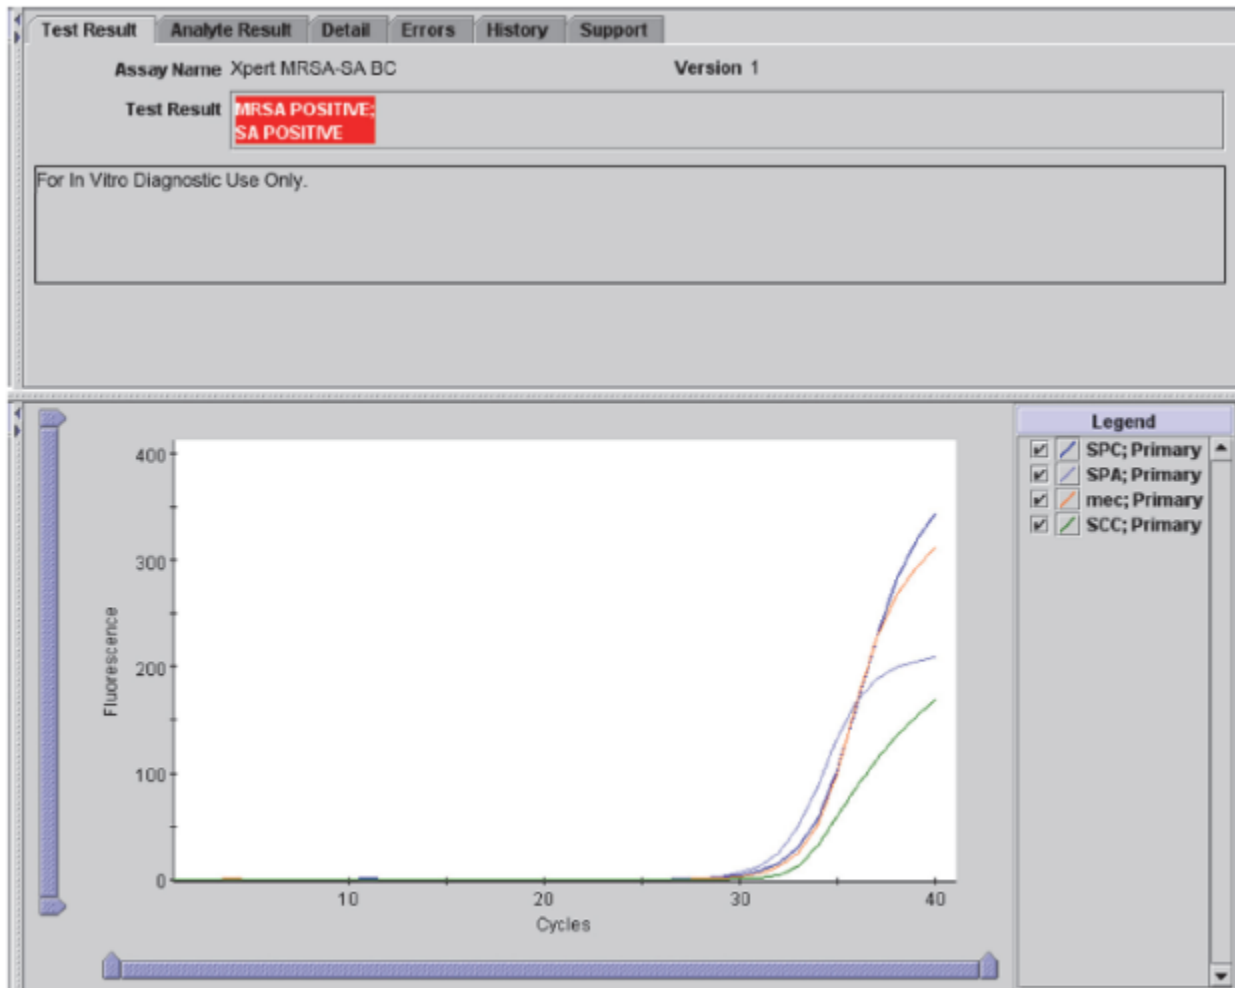

Figure 2. An Example of a MRSA Positive Result
A. MRSA POSITIVE/SA POSITIVE (FIGURE 2)